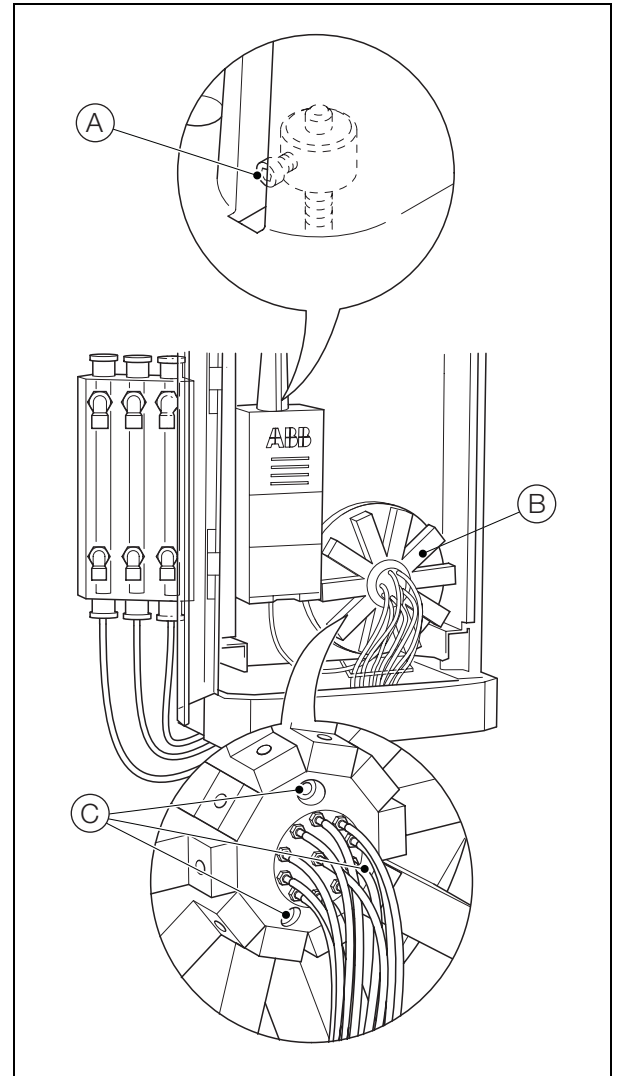

Fig. 12.1 Removing the Manifold
1. Referring to Fig. 12.1:
- a. Check that anti-rotation device (A) is positioned at the bottom of the slot in the measurement cell top cover, indicating that the measurement cell piston is at the bottom of its stroke.
4. Referring to Fig. 12.1:
- a. Open the analytical section door and record the fitted position of each of the tubes connected to the valve manifold (B) to prevent reconnection errors.